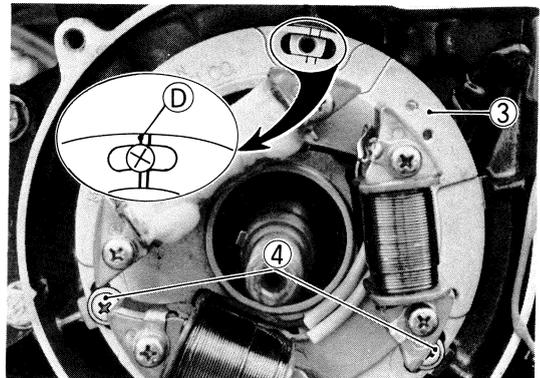

Fig. 19 Adjustment ignition timing
- Loosen the 3 screws securing stator ③ in place.
- Move the stator in place, pointing index line ④ — one of the two lines marked on stator at its top part — to the center of screw ⑤. See Fig. 19. Line ④ is the left one of the two.